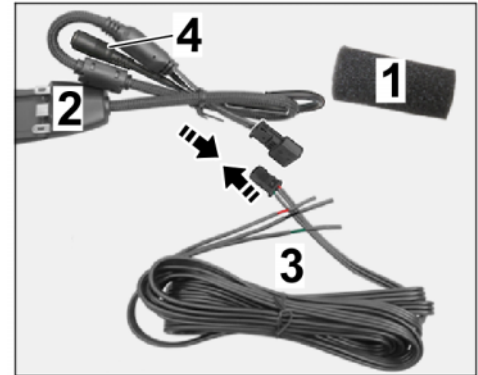

Figure 12
- 3.1.2 Connect plug connection (3-pin) (⇒ *Figure 12 -Arrows-*).
- 3.1.5 Tie back branch for 2nd camera (⇒ *Figure 12 -4-*) and secure it to existing components/lines in the roof console area using another protective foam roll.